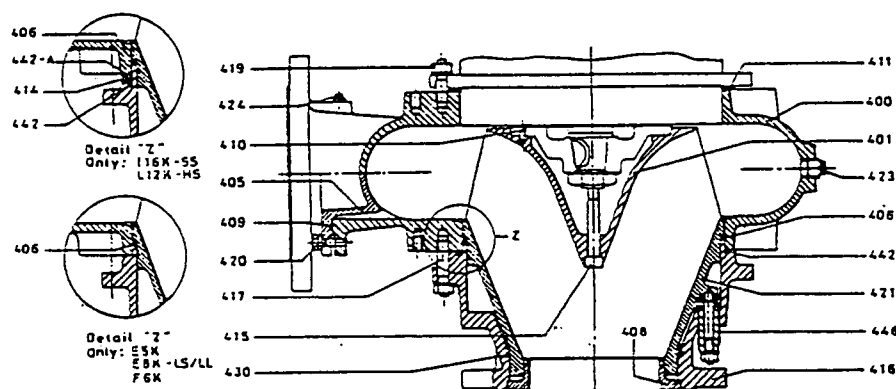

FIGURE 17: E5K, E8K, F6K, F10K, H8K, H12K, I10K, I16K, L12K, L20K: Regulable.
The suction ring (408) should not typically require disassembly; remove from suction casing only if badly damaged by unusual circumstances. (It will be necessary to heat the mating surfaces with a torch to destroy the special adhesive between these two parts. Then press out suction ring with a hydraulic press.) See Figure 17.